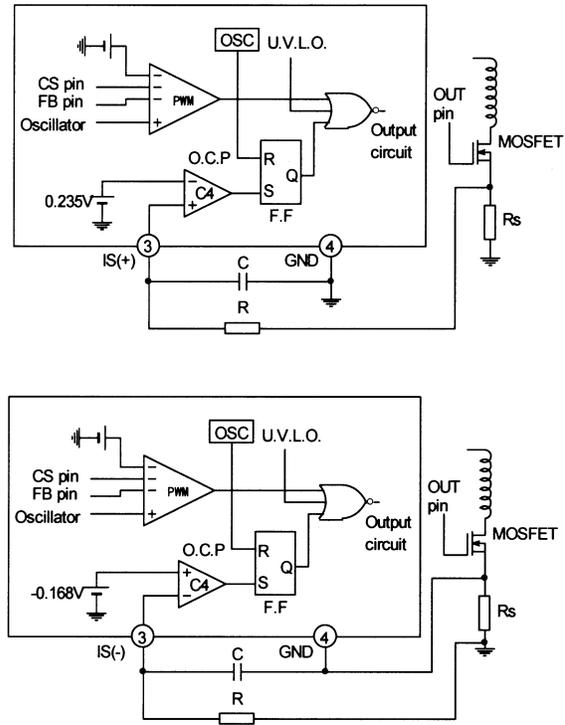

Fig. 14 Overcurrent limiting circuit
The overcurrent limiting circuit detects the peak value of every drain current pulse (pulse by pulse method) of the main switching MOSFET to limit the overcurrent. The detection threshold voltage is +0.235V for FA3641 or -0.168V for FA3647 with respect to the ground as shown in Figure 14.
If the overcurrent limiting circuit malfunctions due to noise, place an RC filter between the IS pin and MOSFET as shown in Figure 14. (See item 14 in "Design advice.")